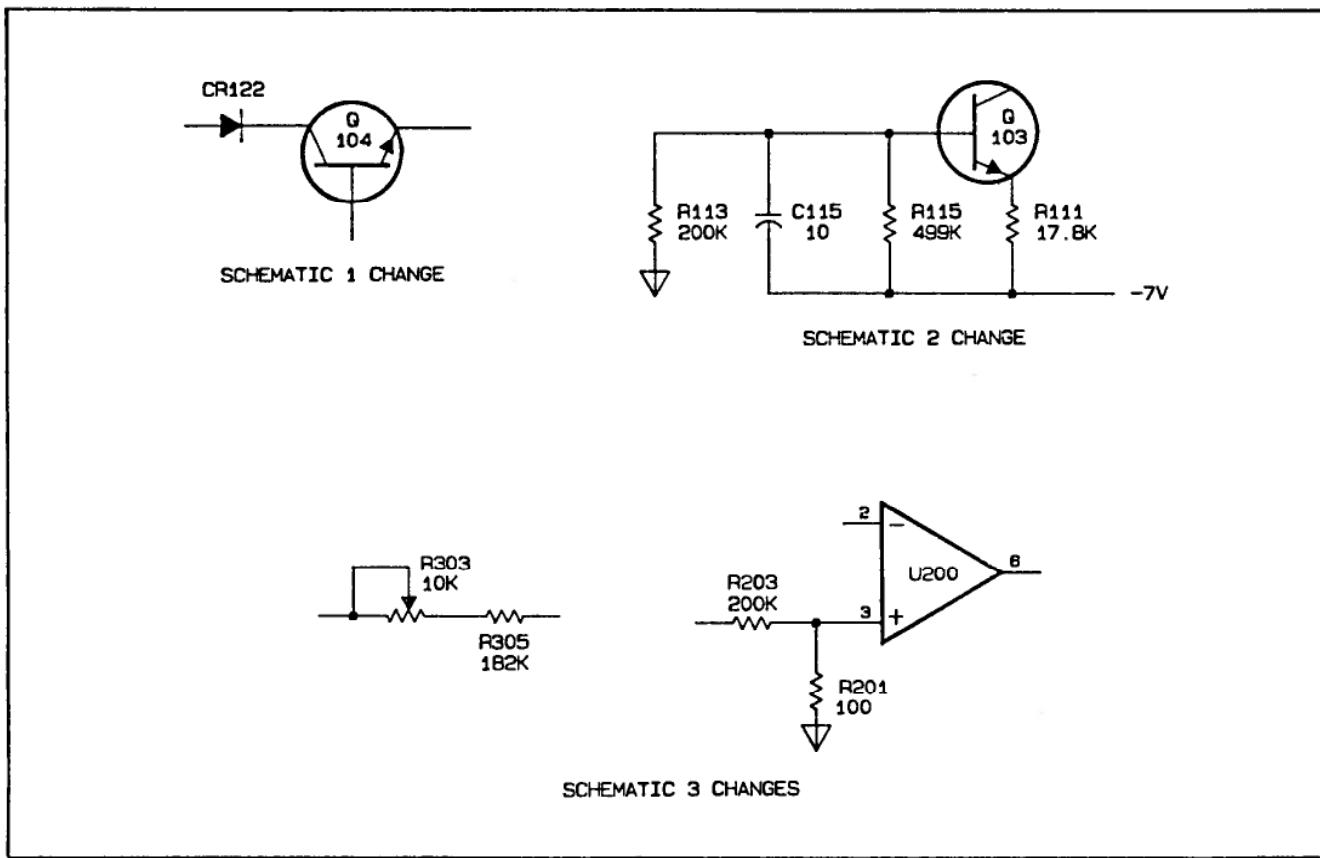

Figure 7-1. Schematics 1, 2, and 3 Changes (Change #2)
7-10. **Schematic 1 Changes.** Delete R159 from the collector of Q104 and connect the collector to CR122, as shown in Figure 7-1.
c. Change the current source (Q103) circuitry in the input amplifier as shown in Figure 7-1.
a. Delete RT300 and R307, connected to potentiometer R303, and connect R303 to R305 (see Figure 7-1). Also change the value of R305 to 182k.
b. Delete R207 from the + input of U200, as shown in Figure 7-1.